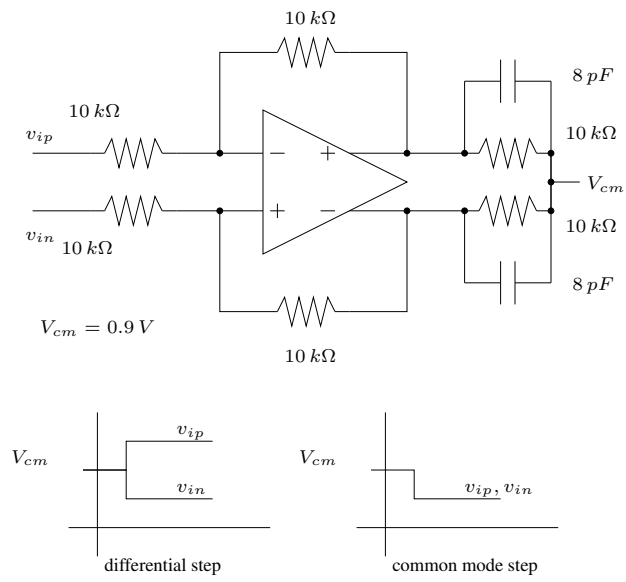

Figure 8: Inverting amplifier
2. **Inverting amplifier:** Design the inverting amplifier in Fig. 8 using the fully differential two stage amplifier designed above. Show the output waveforms for a 1 V differential step and a 0.5 V common mode step.